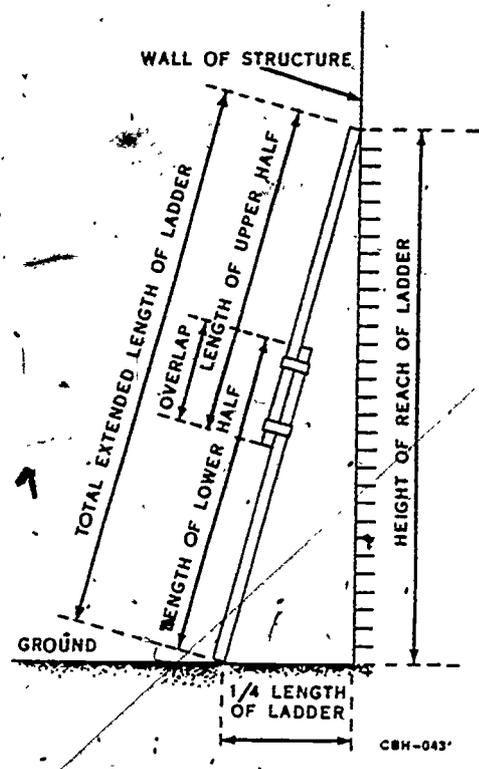

Figure 20. Ladder Stability
5. The foot of a single or extension ladder should be a distance of about one-fourth ($1/4$) the length of the ladder from the structure (see figure 20).